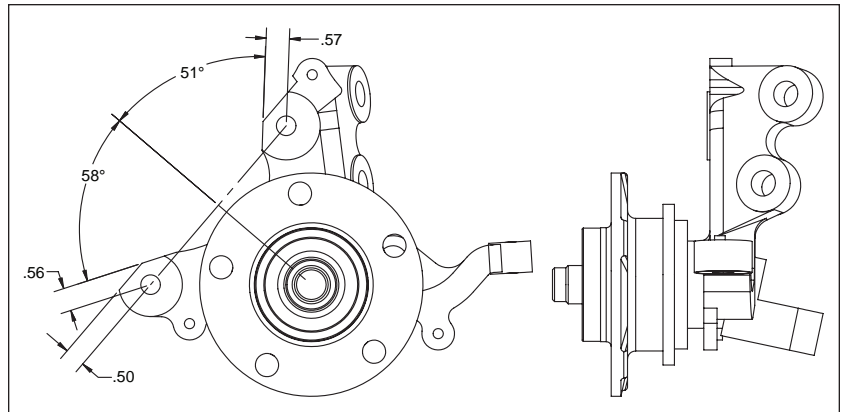

Figure 3. Spindle Modifications
- These modifications should be performed by a qualified machinist. Refer to figure 3, right. Only one view of the spindle is shown, but the modifications need to be performed on both spindles.
- Some material must be removed from the caliper mounting lugs on the OE spindle until .57" (14,5 mm) remains between the center bolt hole and the outer edge of the top lug (figure 3). Remove material on the bottom lug until .56" (14,2) remains on the top tangent and .50" (12,7) on the left tangent (figure 3). After removal, be sure the area is free of sharp edges or burrs. With the caliper and mount bracket in place, check to be sure there is no interference between the mounting lugs on the spindle and the caliper, or caliper bracket.